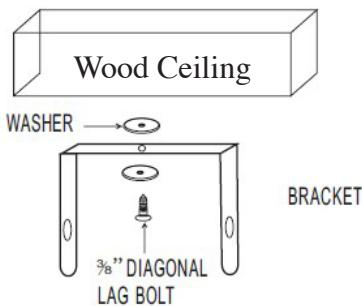

Figure 4a-single-Screw Mounting
Refer to Figures 4a and 4b.
**NOTE:** If you want to swivel the heater either to the right or left adding a washer to both sides of the bracket is recommended. A longer lag bolt may be required to properly secure the unit. See Figure 4a.
1. To turn the unit when it has been installed with a single lag bolt (as shown in Figure 4a), simply turn the entire heater as needed. The unit cannot be turned horizontally if it has been installed with 2 lag bolts.
1. To turn the unit when it has been installed with a single lag bolt (as shown in figure 4a), simply turn the entire heater as needed. The unit cannot be turned horizontally if it has been installed with 2 lag bolts.